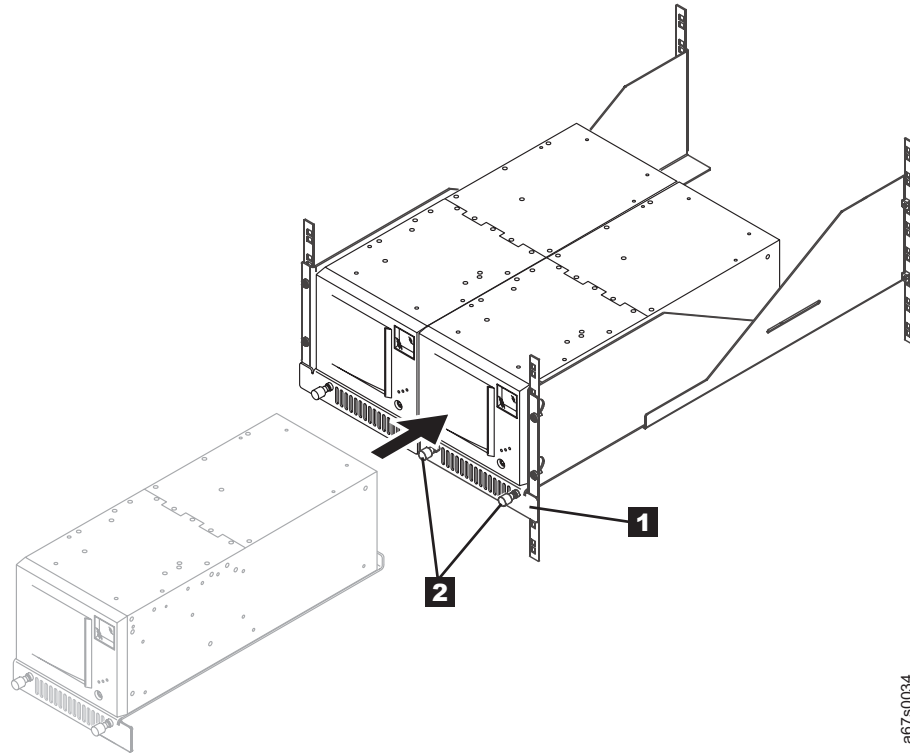

Figure 52. Installing a second 3581 Tape Autoloader onto the rackmount tray
4. Slide the right sled (see **1** in Figure 52 on page 123) into position on the rackmount tray.